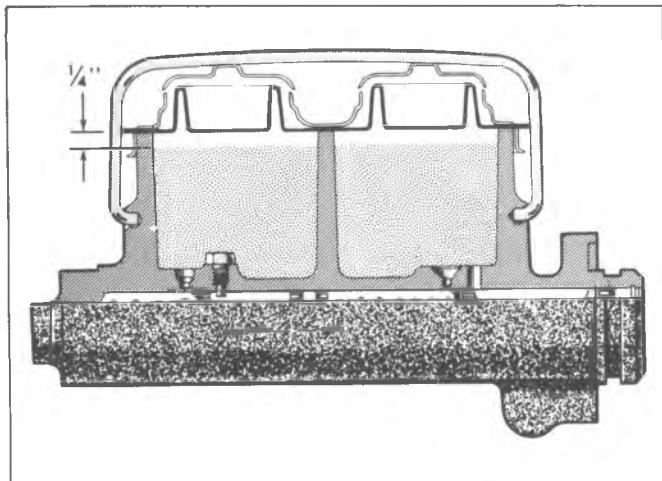

Fig. 30--Correct Fluid Level
- Fill master cylinder reservoirs to within 1/4" of reservoir rims as shown in Figure 30.
7. Fill the master cylinder to the level shown in Figure 30.